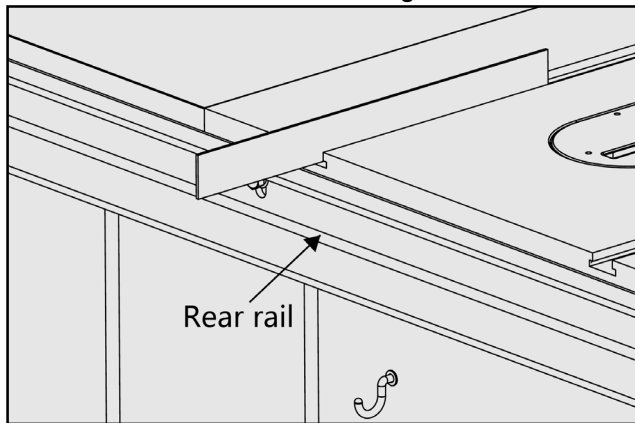

Fig. 8
1. Install the rear rail , front rail, tube, (extension table) as breakdown, Before tightening the fasteners, check to make sure the top edge of the rear rail is flush with the lowest edge of both T-slots, so the miter gauge will slide smoothly when installed later, as shown in Fig. 8.